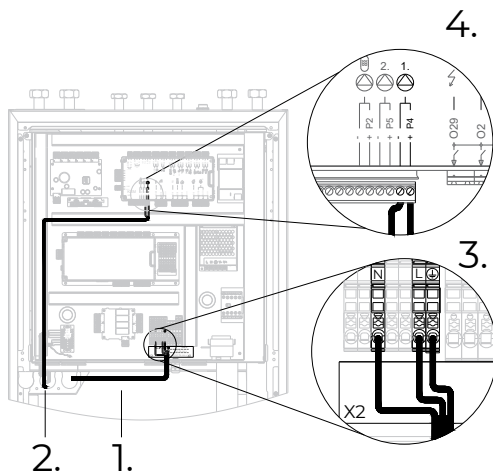

Figure 20: Connecting cables of the circulation pump for heating/cooling loop 1
1. Thread the circulation pump's power cable through the cable gland on the right side to the terminals (Figure 20).
2. Thread the circulation pump's PWM cable through the cable channel on the left side to the terminals (Figure 20).